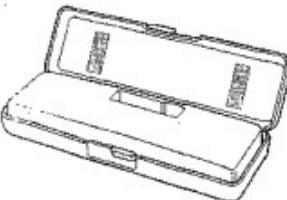

Fig. 19
- 3. Enclose for safekeeping the front panel that is removed in the supplied protective case. (Fig. 19)